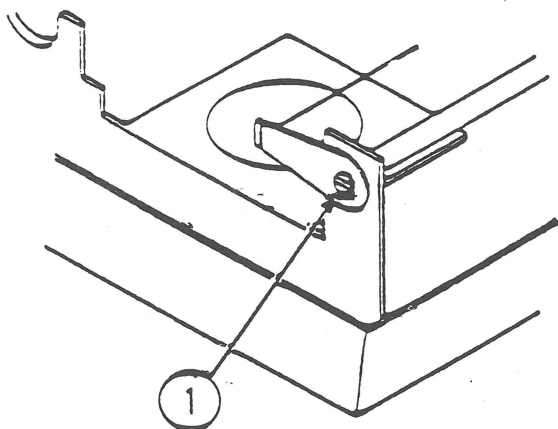

FIGURE 1
5. Loosen the ribbon wire tension arm (see Figure 1, #1) at the left end of the carriage.